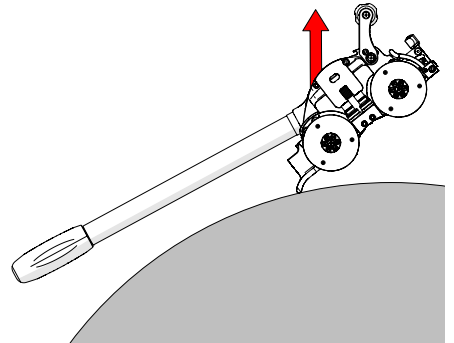

Fig. 186 - Lift from scan surface
4. Pivot the crawler away from the scan surface and lift the crawler using the manipulation handle and the crawler handle (*Fig. 186*).